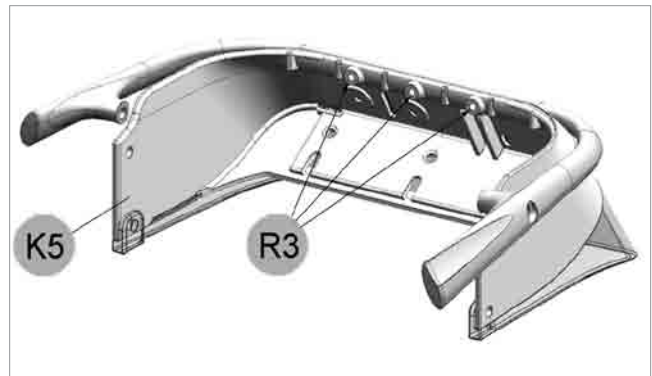

Fig. 60
- 2) Loosen the 3 screws (R3) and remove the rollbar (R) (Fig. 60).